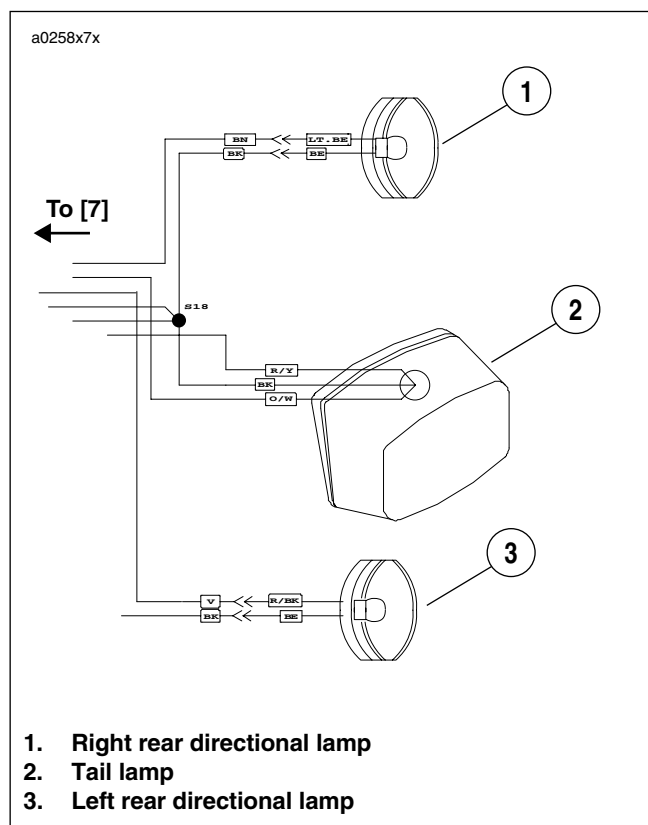

Figure 7-69. Rear Turn Signal Connections
2. Attach two bullet connectors on turn signal wires as shown in Figure 7-69.